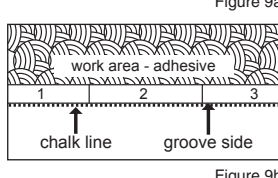

Figure 9d
- Be sure not to spread adhesive too far ahead of your work area (Figure 9d).